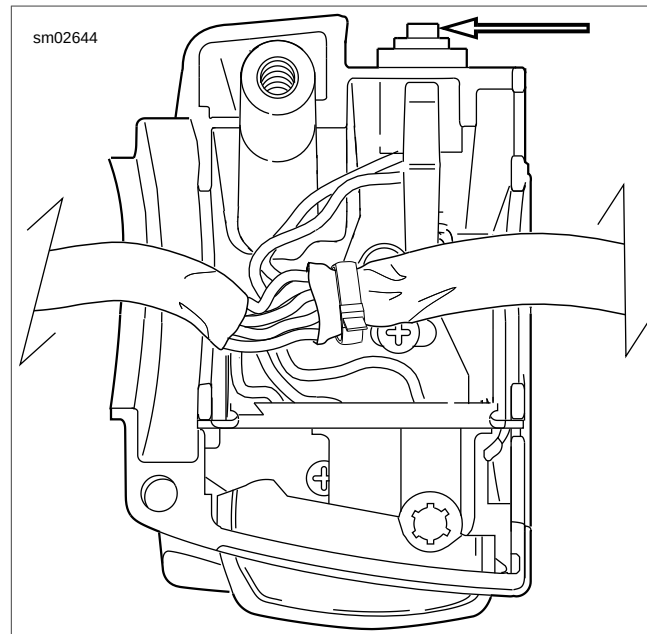

Figure 6-154. Clutch Interlock Switch
2. See Figure 6-154. Cut wires 0.25 in. (6.4 mm) from old switch. Discard switch assembly.